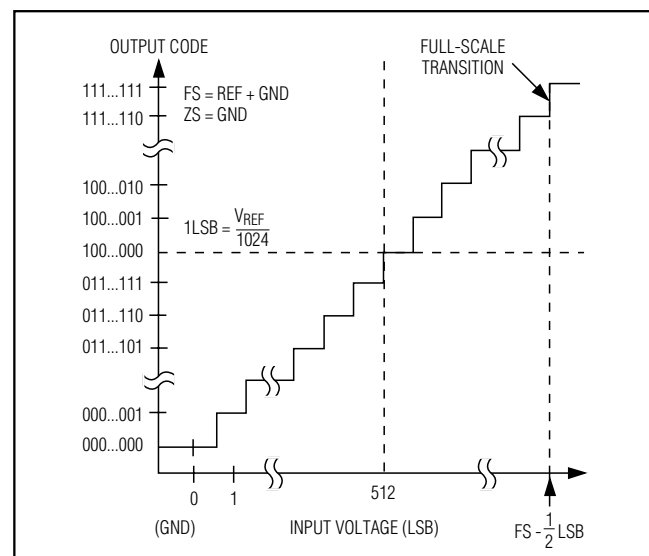
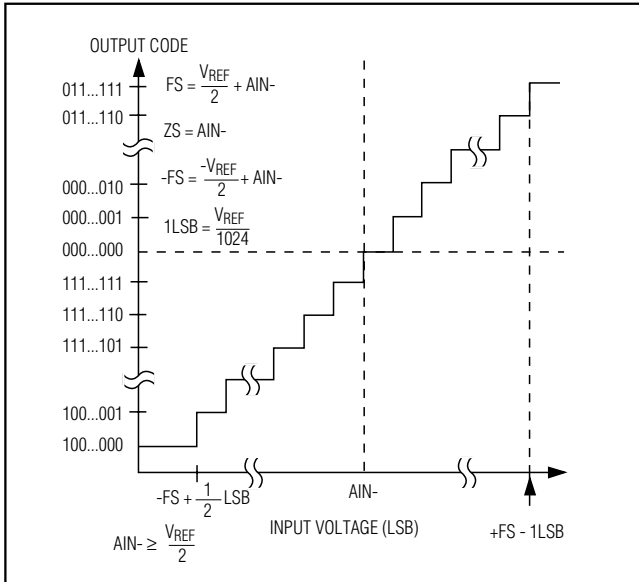

Figure 12. Unipolar Transfer Function
Figure 13. Bipolar Transfer Function
Output data coding for the MAX1136-MAX1139 is binary in unipolar mode and two's complement in bipolar mode with 1LSB = (V_{REF}/2^N) where 'N' is the number of bits (10). Code transitions occur halfway between successive-integer LSB values. Figure 12 and Figure 13 show the input/output (I/O) transfer functions for unipolar and bipolar operations, respectively.